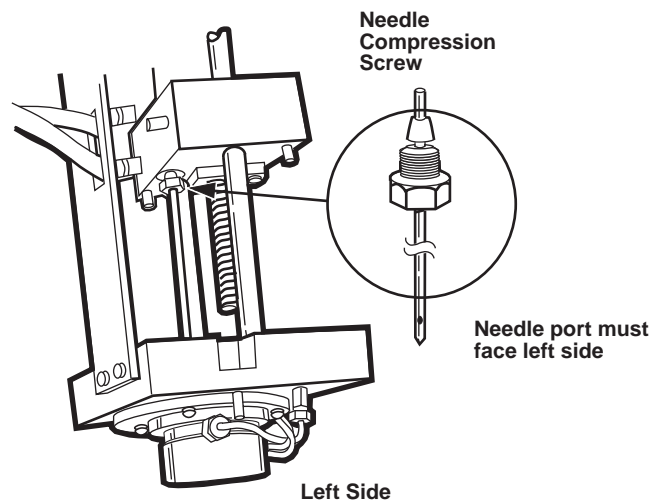

Figure 5-8 Needle Removal
1. Unscrew the compression screw on the needle (Figure 5-8).
4. Orient the needle port toward the left side of the injector (Figure 5-8). Identify the left side of the injector by the position sensors on the support bracket.